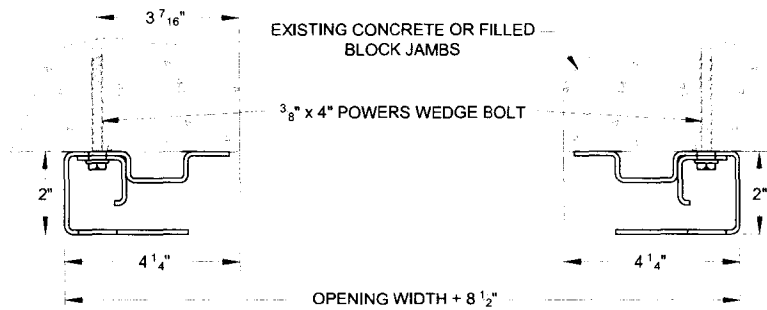

FIGURE 9: GUIDE MOUNTING - OPTION 2
- ⇒ OPTION 2: Masonry jambs. $\frac{3}{8}$ " x 4" Powers Wedge Bolt at inside of guide. See Figure 9